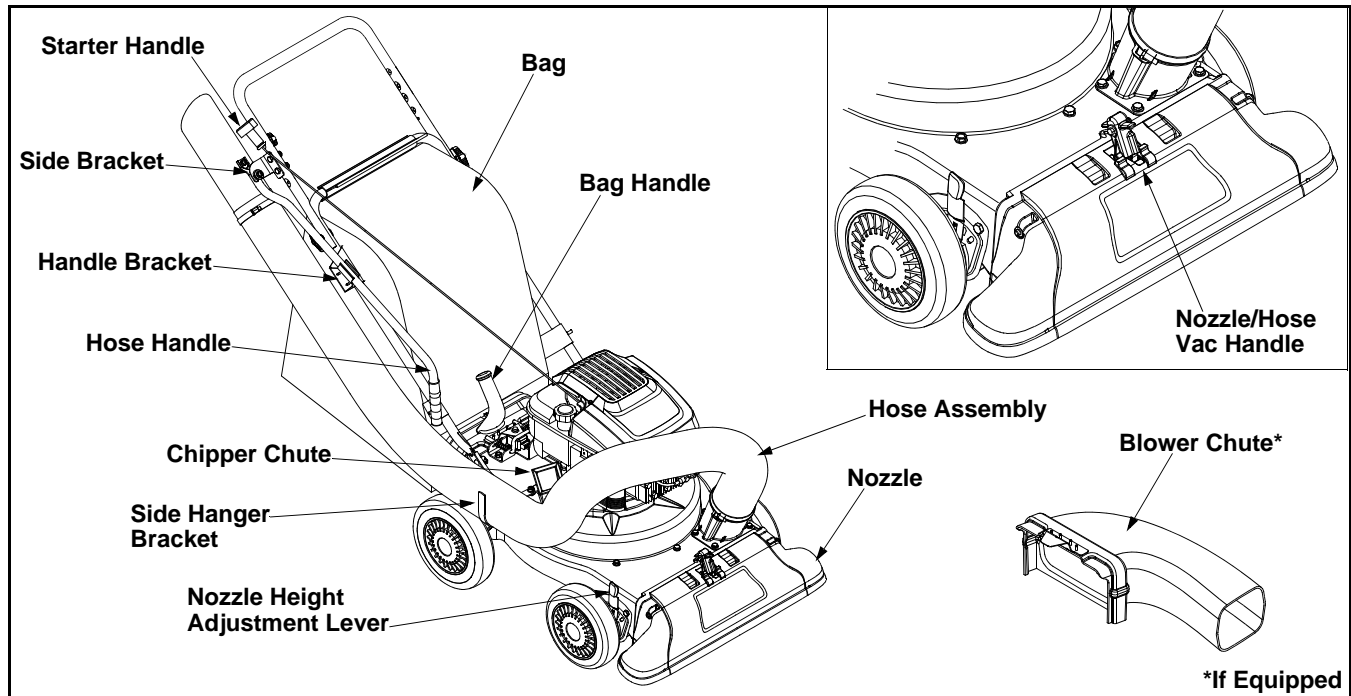

Figure 6
- Connect the hose handle near nozzle end of hose to the side bracket on the upper handle. Refer to Figure 6.
- Snap hose handle to the lower handle bracket to secure in place and lay hose tubing on side hanger bracket next to chipper chute. Refer to Figure 6.
Read this operator's manual and safety rules before operating your Yard Vacuum. Compare the illustrations in Figure 6 with your unit to familiarize yourself with the location of various controls and adjustments.
**Wheels:** Lubricate each wheel shoulder screw once a season with light oil. Refer to Figure 6.
**Nozzle height adjustment levers:** Lubricate the pivot points of the nozzle height adjustment levers once a season with light oil. Refer to Figure 6.
**Locking Rod:** Lubricate the locking rod with light oil to ease the application of attaching on or removing bag or blower chute (if equipped). Refer to Figure 6.
**Nozzle/Hose Vac Handle:** Lubricate the nozzle/hose vac handle on top of nozzle once a season with light oil. Refer to Figure 6.